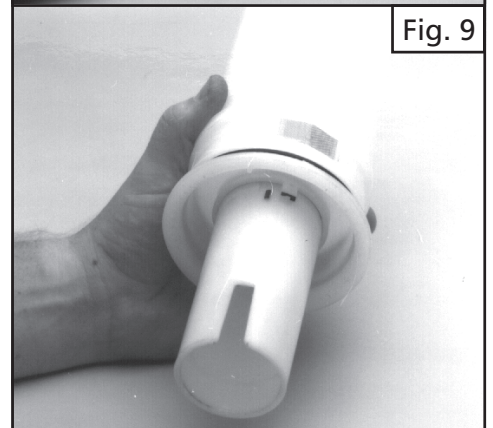

Fig. 9
8) The pump cylinder screws into the pressure cylinder. A little grease on the o-ring makes reassembly easier. Screw cylinder in tight, and be sure that the notch on pump-cylinder (A) is lined up with catch on pressure cylinder (B). (See Figures 9 & 10)